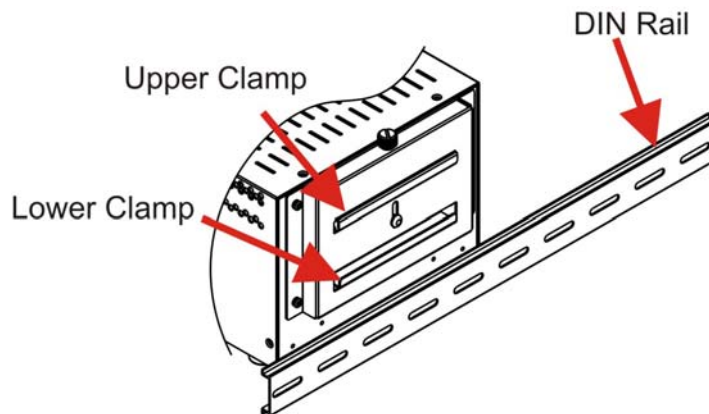

Figure 4-11: Mounting the DIN RAIL
Step 5: Place the DIN rail flush against the back of the mounting bracket making sure the edges of the rail are between the upper and lower clamps (Figure 4-11).